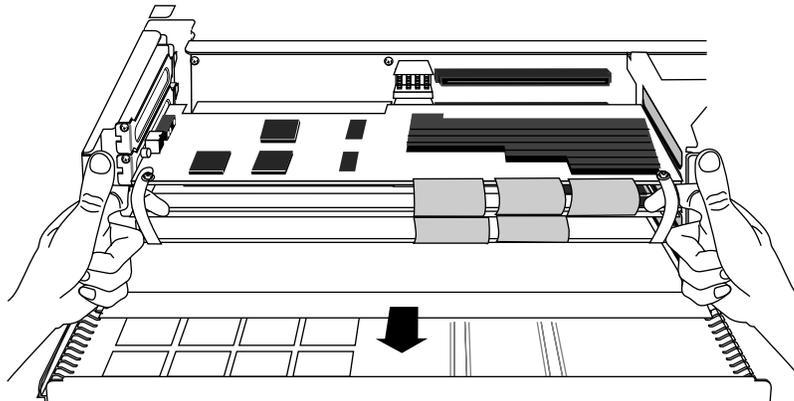

Figure 1-12 Removing the Graphics Board Set From the Chassis
9. Pull the straps to remove the graphics board set from the chassis, as shown in Figure 1-12.